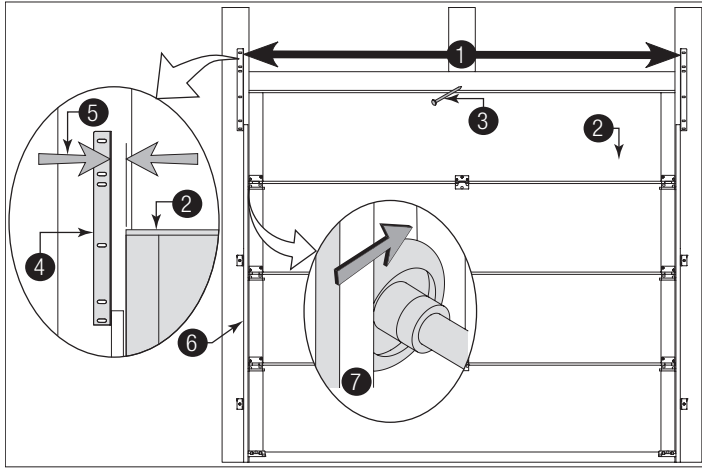

Figure 34
**See Figure 34 for the following steps.**